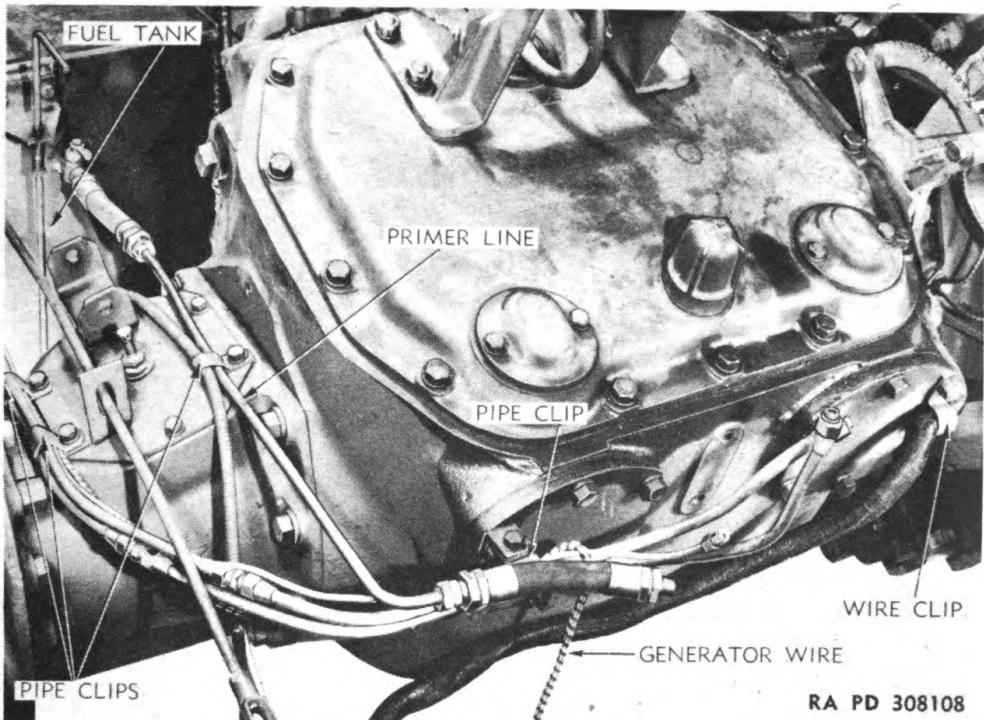
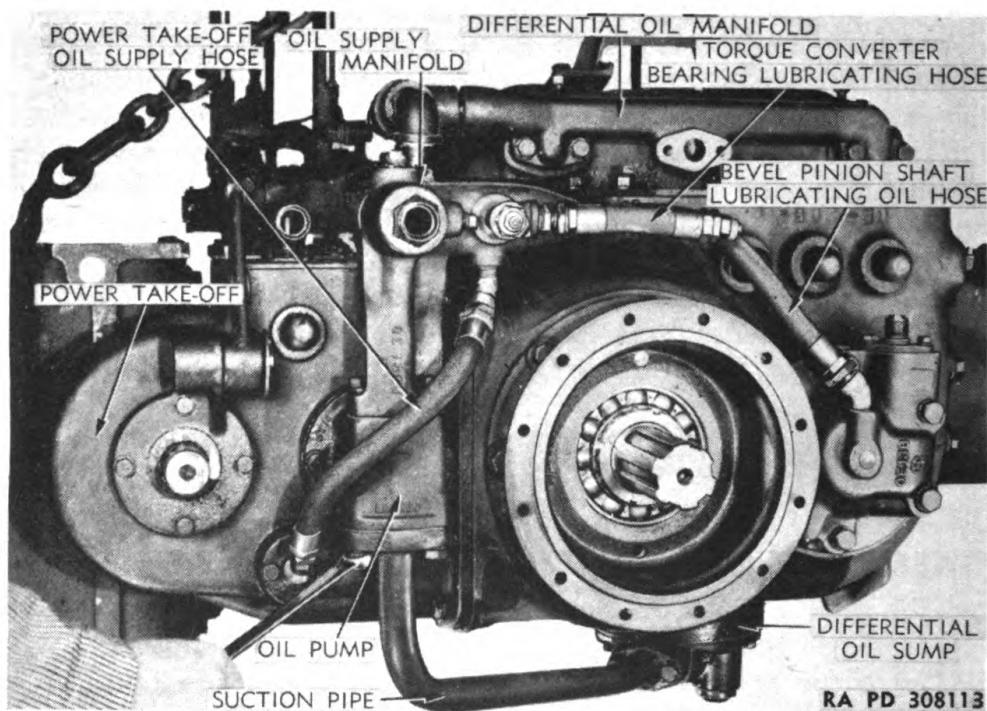

Figure 8 — Location of Wires, Pipes, and Clips on Differential and Final Drive Cases
Figure 13 – Removing Oil Pump Suction Pipe
d. Remove Differential, Transmission, and Final Drive Assembly. Uncouple tracks. Remove cap screws from clips holding wires and lines to differential case and final drive spacers (fig. 8). Discon-
nect generator wire from terminal of ammeter and remove it from clips on instrument panel. Disconnect larger engine primer line from front of fuel tank and remove line. Disconnect air lines inside hull back of front hull post (fig. 9). Disconnect smaller engine primer line near front post of hull and lay pipes back on fuel tank. Place instrument panel under front of tractor in such a manner that instruments are protected from damage. Remove bolts from first two clips inside hull holding air lines, small primer line, and generator wire to hull on right side and lay wire and lines back on fuel tank. Remove bolt from wiring harness clip on left front hull post. Disconnect transmission vent line from fitting at top of power take-off. Disconnect wires from transmission oil pressure and temperature gage operating units on transmission oil supply manifold (fig. 13). Disconnect front converter bearing lubricating oil line from fitting on converter. Disconnect large discharge oil line from rear of transmission oil supply manifold. Remove shear pin from front winch propeller shaft universal and power take-off shaft, and the two bolts from center winch propeller shaft bearing to allow universal to be forced from power take-off shaft. Remove nuts from studs attaching converter to adapter at rear of transmission. Remove two cap screws connecting transmission oil return line to differential oil manifold at rear of differential case. Remove the two towing
b. Connect Controls, Pipes, and Wires. Connect transmission vent pipe to fittings on top of power take-off and vent tube at bottom of radiator supporting frame. Pull winch clutch control rod forward through hole in front post of hull. Connect rear end of rod to clutch lever on winch with yoke pin and secure pin with cotter pin. Using new gasket, connect transmission oil return pipe to oil manifold on rear of differential case (fig. 13) with two cap screws and lock washers. Install bolt with lock washer to attach clip supporting rear end of this pipe to bracket on converter. Slip front winch propeller shaft universal onto power take-off shaft, line up holes, and install shear pin through both. Secure with cotter pin. Attach center bearing on winch propeller shaft to side of hull with two bolts and lock washers. Connect large transmission oil discharge line to rear of transmission oil supply manifold. Connect converter bearing lubricating oil line (fig. 13) to fitting on converter. Connect wires to terminals of transmission oil pressure and temperature operating units on oil supply manifold. Connect clip on wiring harness to inside of front hull post with bolt and lock washer (fig. 9). Connect air pipes and smaller primer line pipe and secure these pipes and generator wire with clips and bolts to the first two brackets inside hull (fig. 9). Connect larger primer line pipe to fitting on fuel tank. Attach clips on pipes and wires to differential case and final drive spacer (fig. 8).
Remove four cap screws attaching oil pump suction pipe to pump and oil sump and remove pipe (fig. 13). Remove eight cap screws and remove oil sump and screen from bottom of differential case (fig. 49). Lower assembly onto a platform or blocks built so that the entire assembly will be supported on these blocks by the differential case and sprockets will clear floor. Place wedges under differential case so assembly cannot tip sideways or roll forward or back. Remove hoist chain and hoist.
c. **Remove Power Take-off Assembly From Transmission** (figs. 13 and 14). Disconnect lower end of power take-off oil supply hose from power take-off. Disconnect oil inlet hose from lower pipe elbow at rear of oil pressure relief valve. Disconnect end of transmission bevel pinion shaft oil supply hose from oil supply manifold. Remove cap screw from clip on this hose. Disconnect transmission reverse idler gear oil supply hose from fitting on left side of transmission case at bottom and rear of case. Remove the two cap screws attaching oil supply manifold to oil pump and remove manifold with attached hoses. Unhook the two brake return springs from bracket on power take-off and levers and remove them. Remove yoke pin to disconnect control rod from power take-off shifter shaft, then remove the eight attaching cap screws and lift power take-off assembly from transmission case.